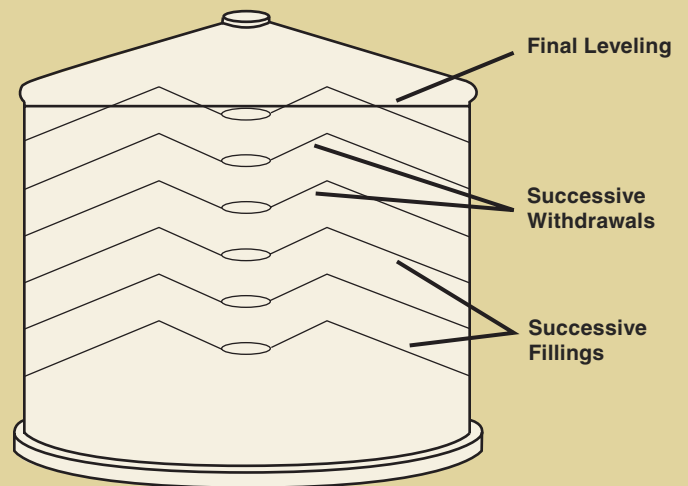

Figure 2.
- A good management practice in bins equipped with center unloading augers is to periodically unload some of the grain to remove any trash and fines accumulated in the center of the bin. This is often referred to as "coring." During filling, run the unloading auger at least daily or more often if needed to remove the peaked grain (Figure 2). The goal is to form an inverted cone with a diameter in the range of 5 to 10 feet. The grain that is removed can be mixed with other grain and put back into the bin.